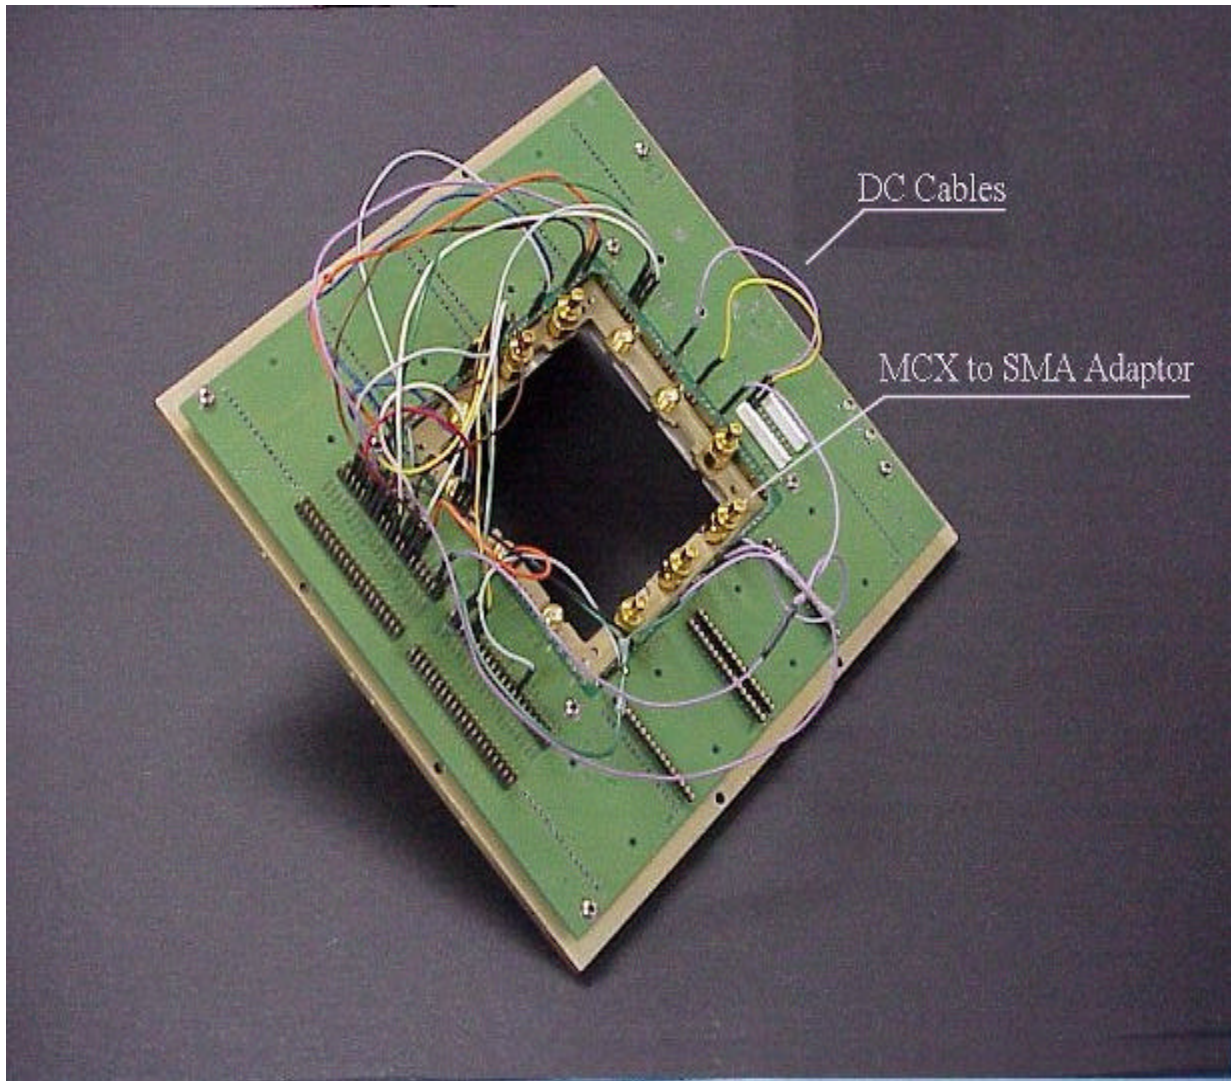

Figure 5
3. Install **SMA to MCX adaptors** were needed, as determined by the fixture schematic for the application. These should not be torqued greater than **15 inch pounds** . See Figure 5.
4. As determined by the application's fixture schematic, jumper the designated tester resources to the specific pogo pins on the carrier. See Figure 5. Make sure the VI RTNS and VRTNS are connected to ground. Also make sure that GREF is attached to GND.